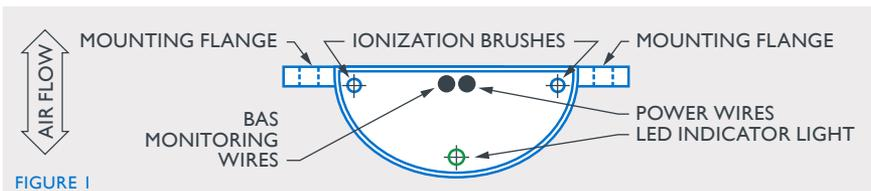

FIGURE 1
3. Mount the unit at or near the fan inlet using the holes in the mounting flanges, insuring that the air stream flows over the 2 brushes simultaneously. See figures 1 & 2.